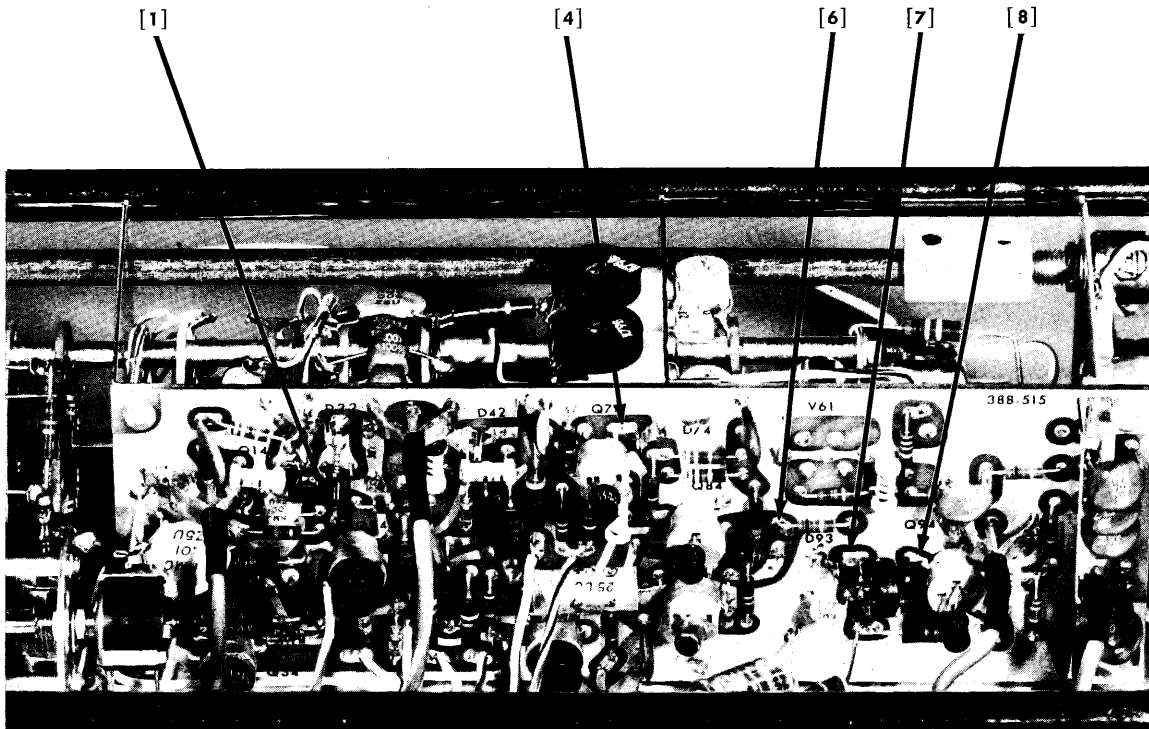

Fig. 6-3. Test point locations on printed circuit board.
1. Connect the test oscilloscope to test point [1] (see Fig. 6-3). The waveform shown at test point [1] on the schematic should appear with the test oscilloscope set at the sweep rate and deflection factor (including probe) indicated.